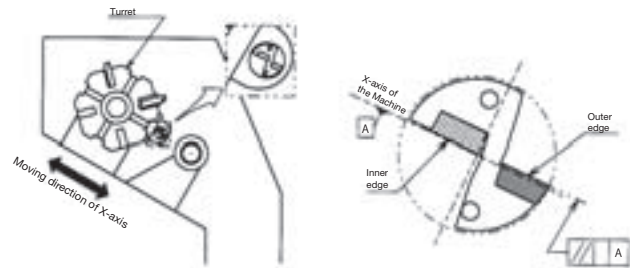

Fig. 1 Installed to the lathe
- ② It is recommended to set the outer insert as shown in Fig. 1 with the outer insert facing the operator. (Fig. 1)